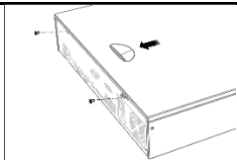

Figure 2-4 Remove Cover
Step 1 Unfasten screws on the back, and push the cover backwards to remove the cover. Refer to Figure 2-4.